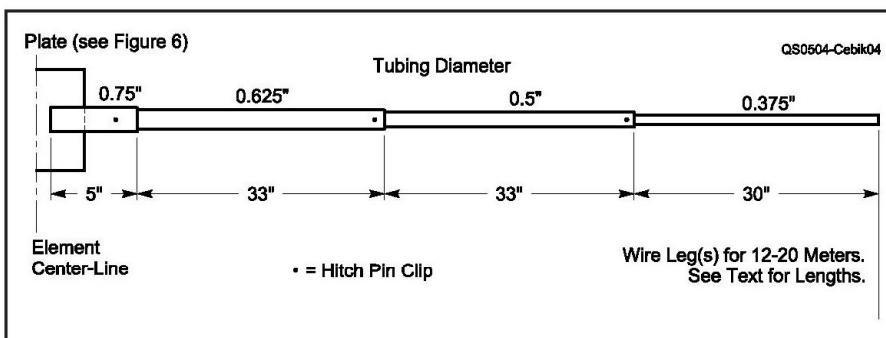

Figure 4—The general tubing layout for the inverted-U for each half element. The opposite side of the dipole is a mirror image of the one shown.
1. The aluminum tubing dipole for 10 meters. Each half of the aluminum tubing dipole consists of three longer detachable sections of tubing and a short section mounted permanently to the feed-point plate, as shown in Figure 4. Let's consider each half of the element separately. Counting from the center of the plate—the feed point—the element extends 5 inches using $\frac{3}{4}$ inch aluminum tubing. Then we have two 33 inch exposed tubing sections, with an additional 3 inches of tubing overlap per section. These sections are $\frac{5}{8}$ and $\frac{1}{2}$ inch in diameter, respectively. The exposed outer section is 30 inches long (with at least a